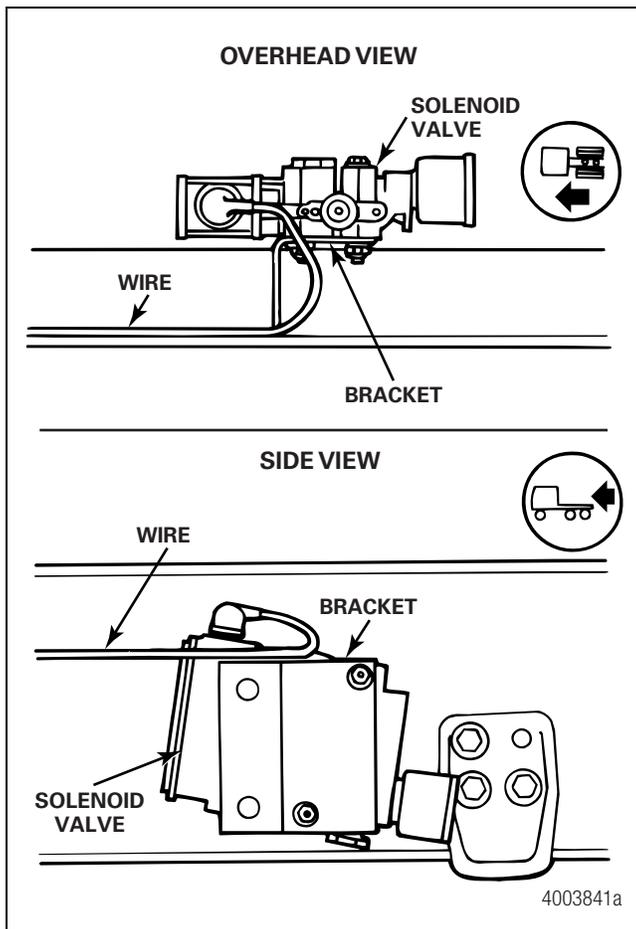

Figure 4.1
3. Disconnect the wiring connector from the solenoid valve. Figure 4.1.